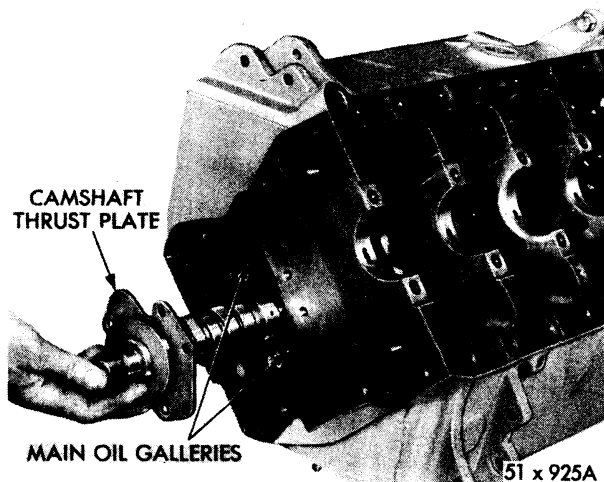
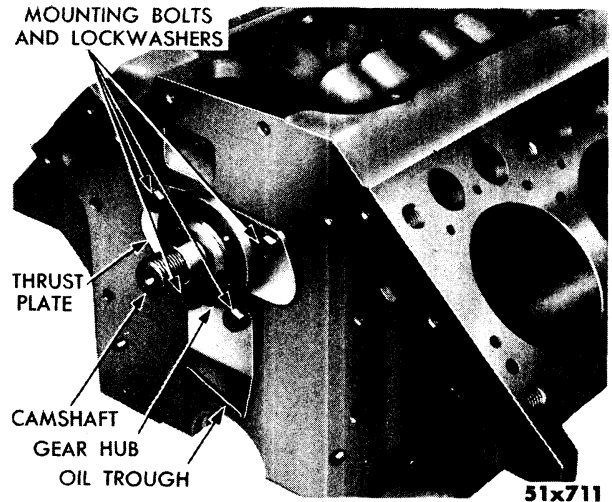

Fig. 98—Installing Camshaft
Fig. 99—Camshaft, Thrust Plate and Gear Hub Installed
- (4) Lubricate all camshaft bearings. Install camshaft and thrust plate, as shown in Figure 98. Place the oil trough in position and install bolts and lockwashers. Tighten bolts to 15 foot-pounds torque. (See Fig. 99). Do not allow the camshaft lobes to ride on bearings when installing the camshaft, as damage to the bearings will result.